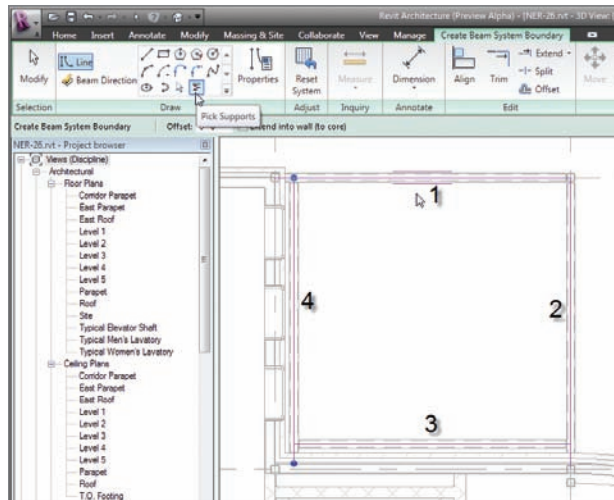

FIGURE 8.40 Picking the four beams as the supports of the beam system
2. On the Draw panel, click the Pick Supports button, as shown at the top of Figure 8.40.
3. Pick the four HSS members that form the canopy, as shown in Figure 8.40.